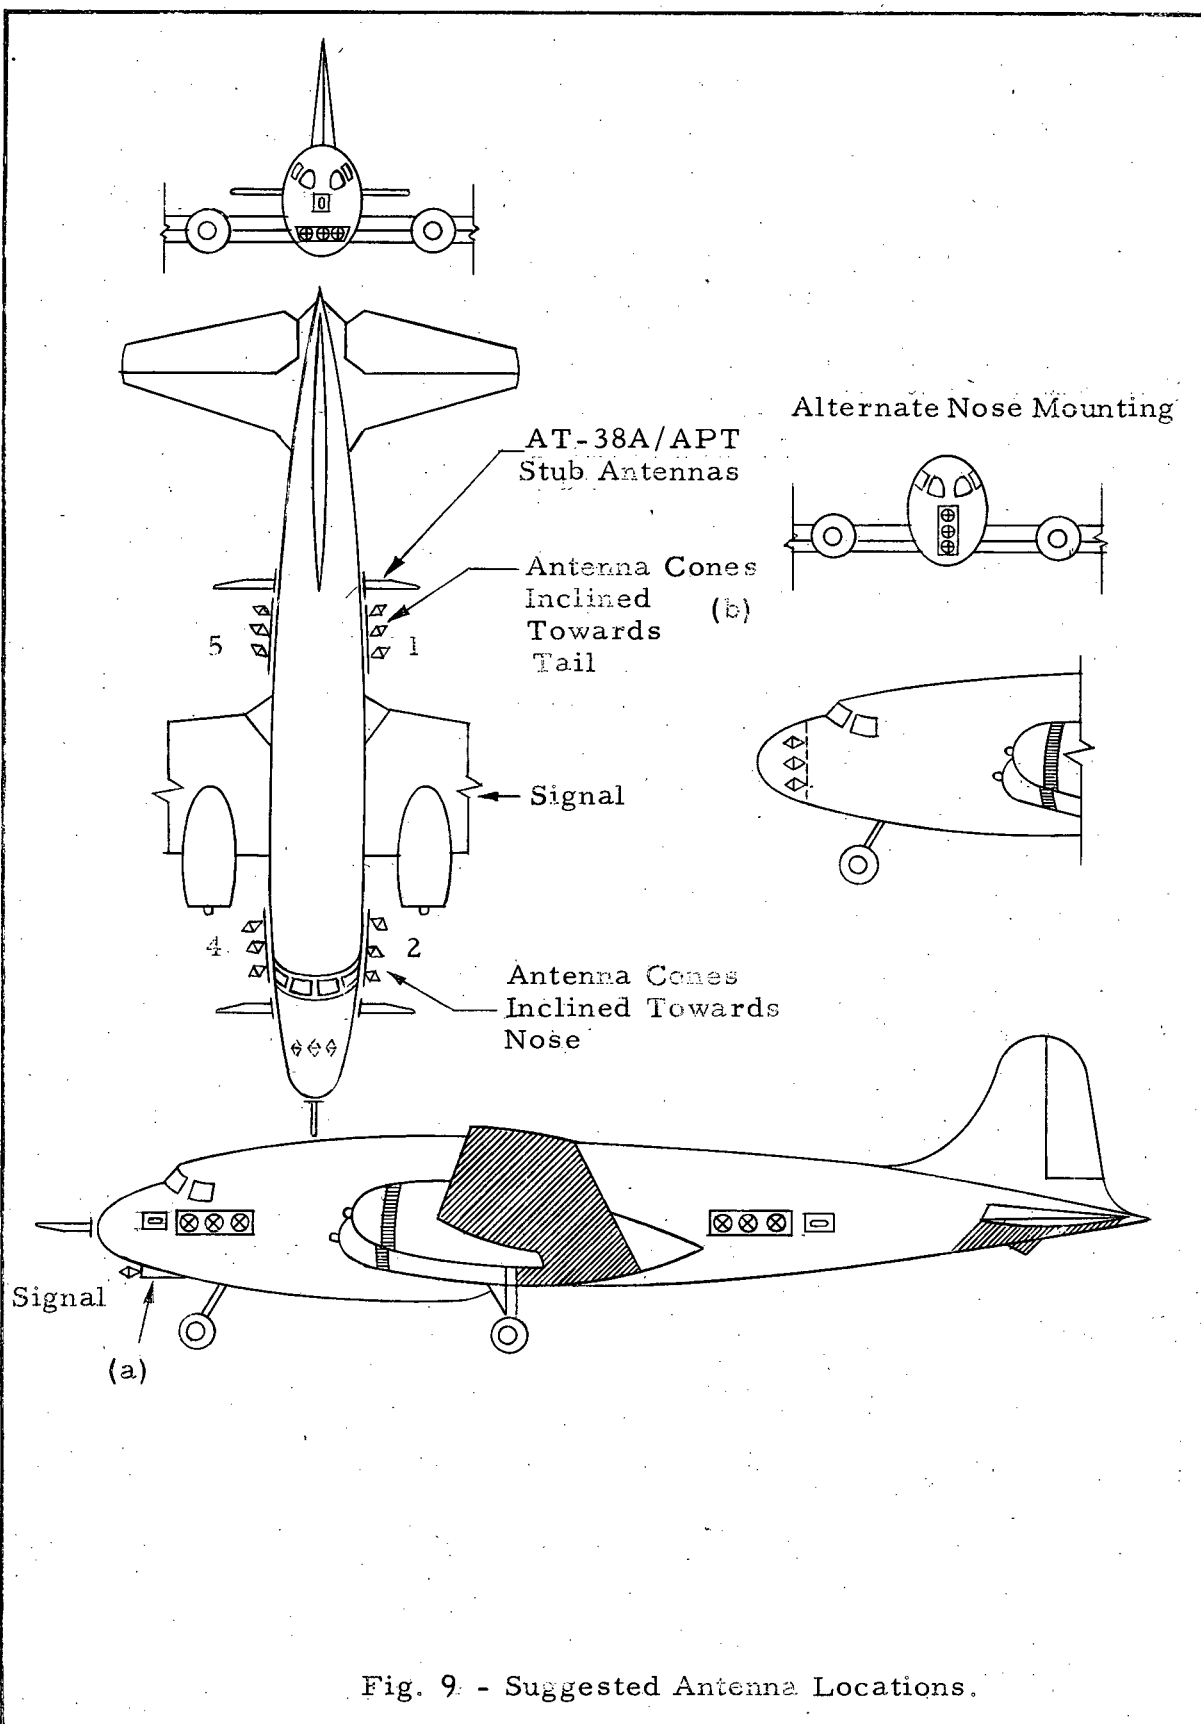

Fig. 9 - Suggested Antenna Locations.
2. Install stub antennas AT-38A/APT as close as possible to the original AS-125 antennas in groups I through V. The stub antenna should be mounted with its maximum diameter horizontal and the straight edge forward. Suggested antenna locations are shown in Fig. 9. It is not necessary for the stub to be level with the horizon. Care should be taken in cutting the mounting hole for this antenna so that the hole is large enough to prevent shorting of the copper foil (signal lead) to the fuselage.